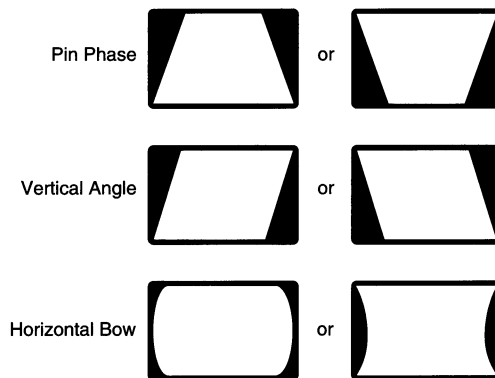

Figure 4 Geometric Raster Distortion
2. FIGURE 4. Compare your raster distortion with the common raster distortions shown below, then adjust the suggested control.